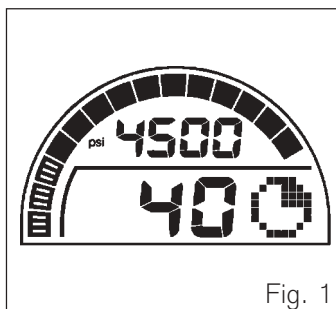
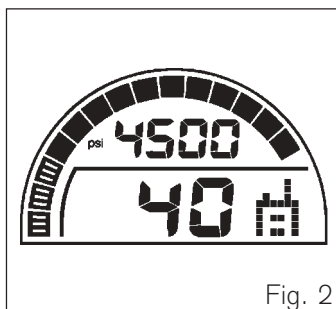
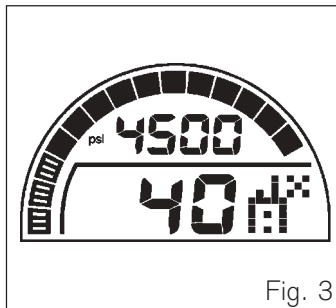

Fig. 1
Fig. 2
Fig. 3
- ◆ Pass the tally key to controller of the Entry Control Board (ECB). The controller will initiate a logon to the ECB. The Green LED on the IR link cover at the rear of the Sentinel begins to flash when the logon is established indicating a successful radio link and the display shows Fig. 1.
If there is a loss of radio contact between the radio of the ECB and the Data Radio Unit then the 'lost' communication icon (Fig. 2) will be displayed on the Sentinel display accompanied by an audible 'bleep' tone. During the communication failure the 'lost' communication icon will be displayed alternating with the normal Sentinel icon (Fig. 1). In addition, the 'Green' LED at the rear of the Sentinel will stop flashing.
Should the wearer of the SCBA make a decision to withdraw from an incident, a signal can be transmitted to the ECB by pressing and holding the RH button of the Sentinel until the radio icon (Fig. 3) is displayed. On observing the radio icon, the wearer should release the RH button. The display of the Sentinel will change back to 'operational mode' (Fig.1).
To acknowledge the evacuation request to the controller at the ECB the wearer must press the RH button of the Sentinel – a single 'bleep' is emitted. Immediately release the button and the display will change to 'operational mode' (Fig. 1).